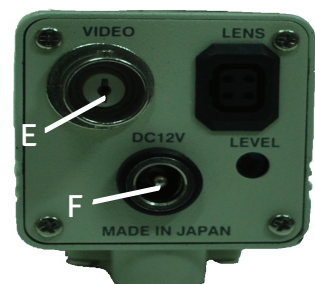

Figure 15
4. Plug in the video cable into the Analog video Connector. Shown as (D)., Refer Figure. 15.